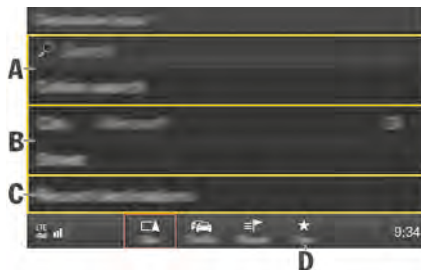

Fig. 137: Enter destination
2. Select **Search** or **Online search** (see **A**, ▷ (Fig. 137)).
2. Select **City** or **Street** (see **B**, ▷ (Fig. 137)).
2. Select **Recent destinations** (see **C**, ▷ (Fig. 137)).
1. **NAV** ▶ **Points of Interest(C)**▷ (Fig. 137)